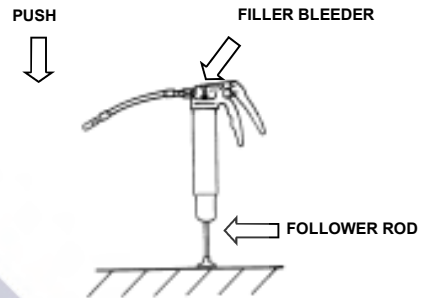

Fig 5
- 6) Bleed air from grease (see Fig 5).
6) Bleed air from grease (see Fig 5).
2) Unscrew the Filler/Bleeder Valve two full turns (see Fig 5). Lock the Pull rod into the follower.
3) Place the rod Pull Handle on a flat surface and push gun down firmly (see Fig 5). Some grease will appear before air is expelled.